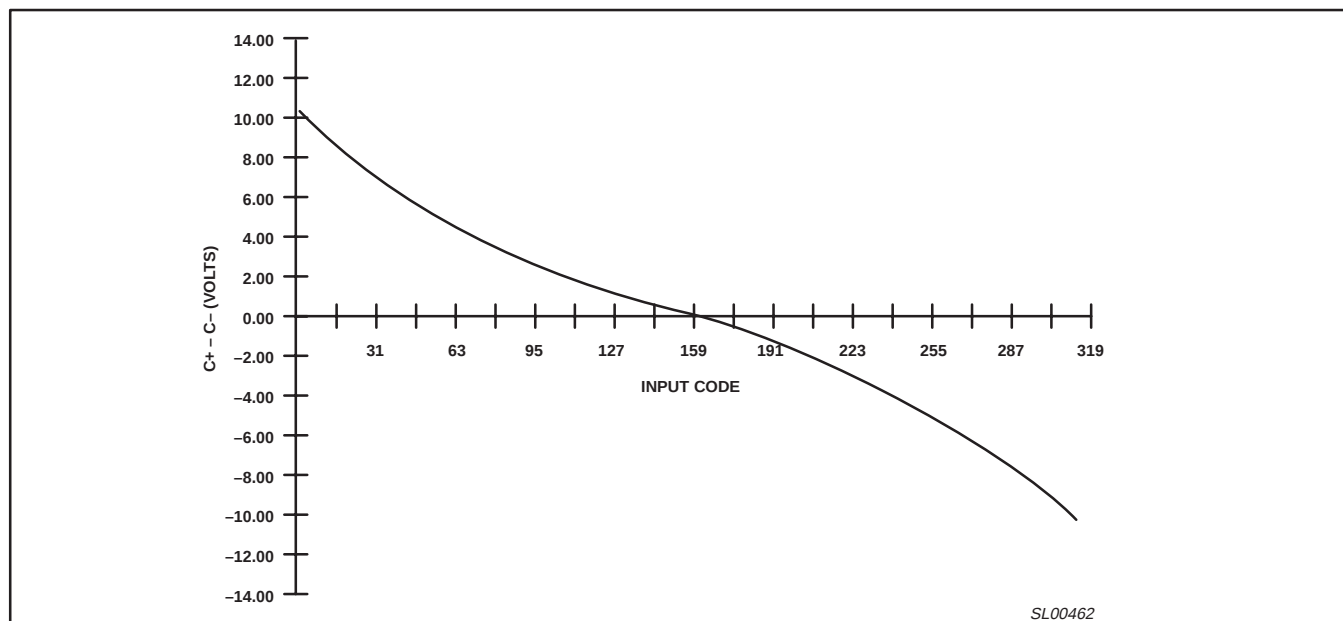
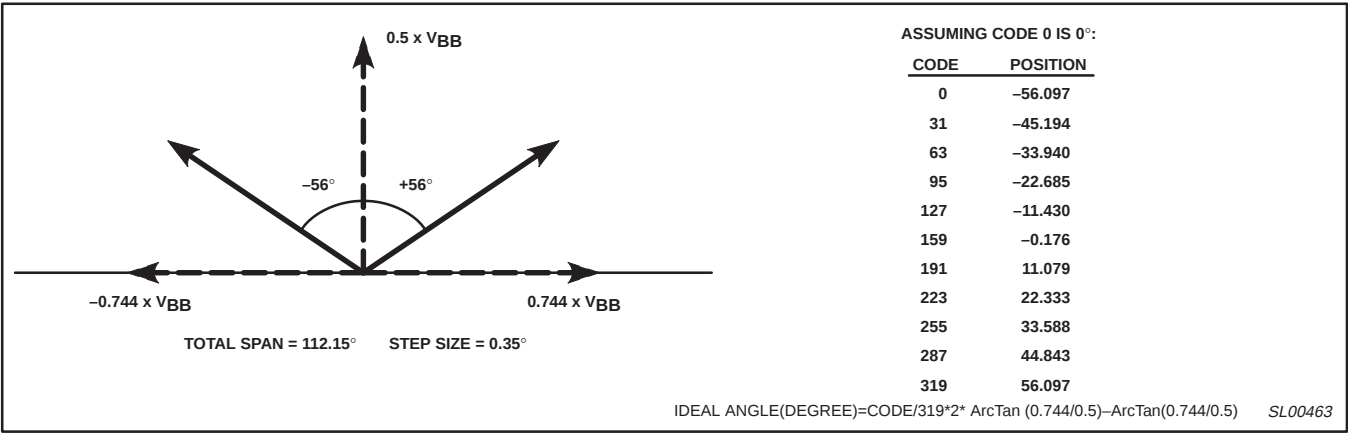

Figure 3. Typical output voltage vs input code ($V_{BB} = 14 \text{ V}$)
Figure 4. Total span
- In reference to nominal values in Figure 4. (Based on 7+ bit DAC).
The primary function of the SA5777A IC is to generate the transfer function that maps an input code into the correct voltages for linearly controlling the coils of an air-core gauge display (Figure 3). The SA5777A has been implemented using the tangent drive algorithm. Therefore, one coil on each meter will be driven with an output approximating the tangent function, the other coils will be biased at $1/2 V_{BB}$. The internal DAC is designed to operate over a 7+ bit (56°) data range. An extended range can be achieved by changing the relationship between the bias coil and the driver coil. As the current through the bias coil is reduced, the full scale deflection is increased. Theoretically, this deflection could approach 180°, but practical limitations of accuracy, resolution, and torque restrict the full scale range to approximately 112° (Figure 4). This full scale range corresponds to a bias coil voltage of $0.5 \times V_{BB}$ and a full scale tangent voltage of $0.744 \times V_{BB}$. The DAC has been tailored to